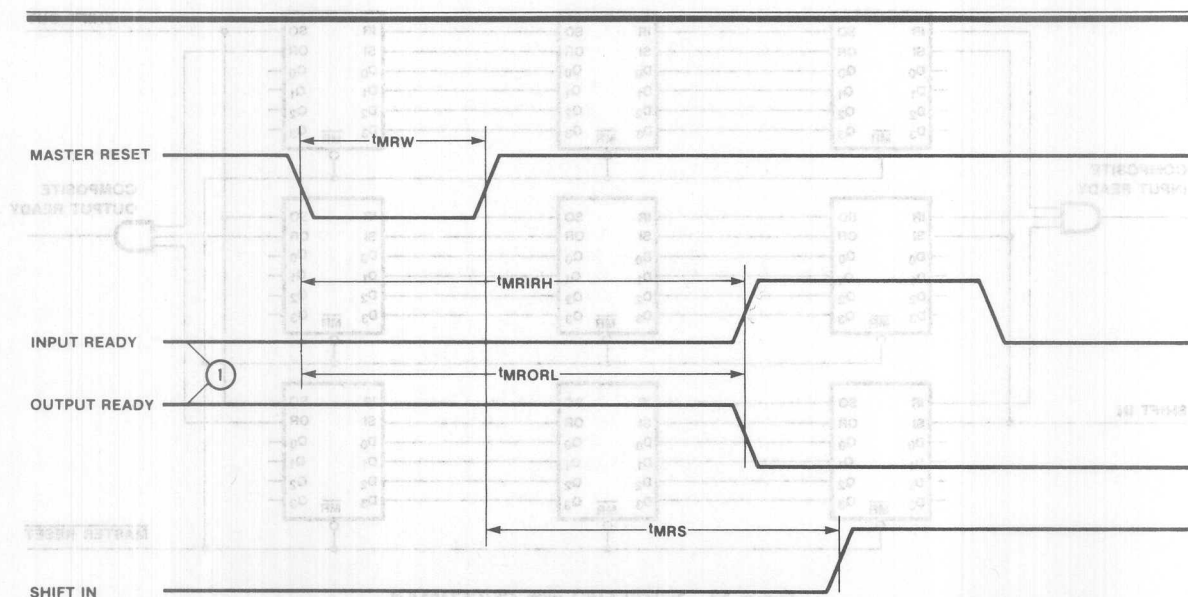

Figure 11. Master Reset Timing
After power up the Master Reset is pulsed low (Fig. 11) to prepare the FIFO to accept data in the first location. When Input Ready (IR) is HIGH the location is ready to accept data from the  $D_x$  inputs. Data then present at the data inputs is entered into the first location when the Shift In (SI) is brought HIGH. A SI HIGH signal causes the IR to go LOW. Data remains at the first location until SI is brought LOW. When SI is brought LOW and the FIFO is not full, IR will go HIGH, indicating that more room is available. Simultaneously, data will propagate to the second location and continue shifting until it reaches the output stage or a full location. If the memory is full, IR will remain LOW.